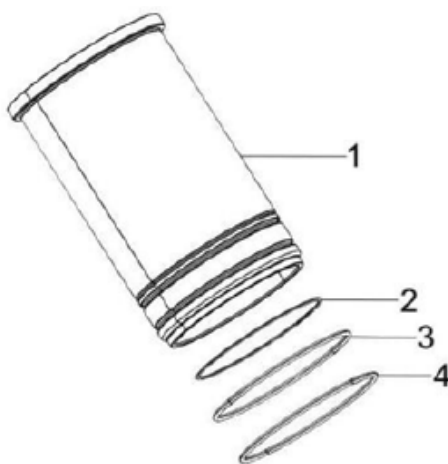

Figure 118.
1. Equip the liner with new seals (Figure 118) coated with grease or clean oil.